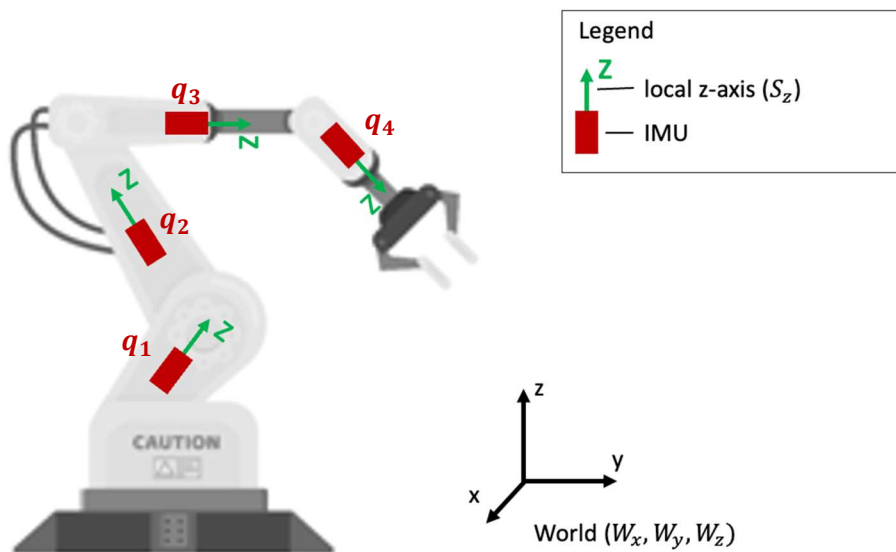
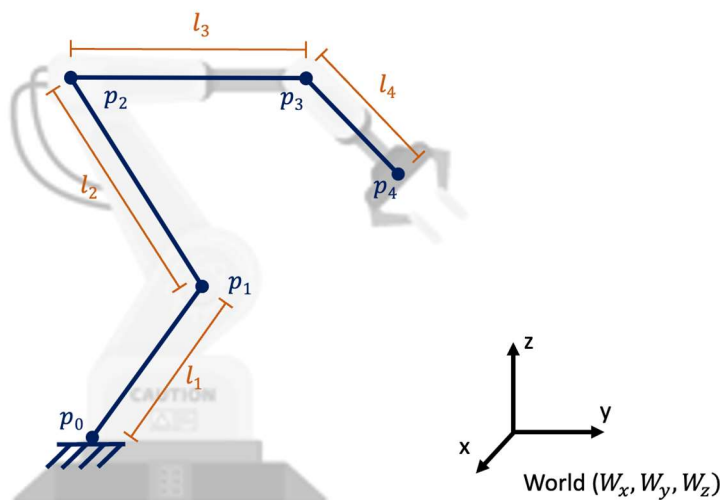

Figure 2 - IMU placement
Figure 3 – kinematic chain
3.1 (20%) Kinematic Chain / Quaternions - The Bosch IMU BNO055 includes a sensor fusion that can provide an absolute orientation in the form of a unit quaternion in the world frame W . The sensors are aligned in a way that the z-axis S_z of the local sensor frame S points in the direction depicted below (Figure 2). Furthermore, assume that the kinematic chain (Figure 3) depicted below is valid. Calculate the position of p_4 and the Euclidean distance between p_0 and p_4 in the world frame W under the assumption that p_0 lies in the origin of the coordinate frame. Conversion from pure quaternion to vector can be notated in the following way: